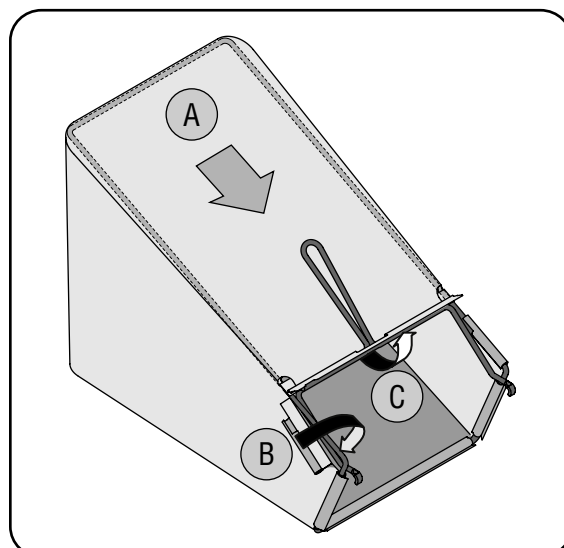

Figure 3-4
- b. Slip plastic channel of grass bag over hooks on the frame. See Figure 3-4. All plastic channels except center top of bag attach from outside of bag.